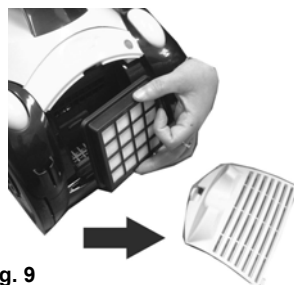

Fig. 9
2. Remove the post motor filter from the filter grill. (Fig. 9)